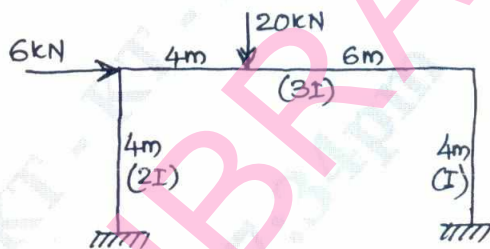

Fig.Q.9
- 9 Analyze the rigid frame shown in Fig.Q.9 by matrix stiffness method and draw BMD. (16 Marks)